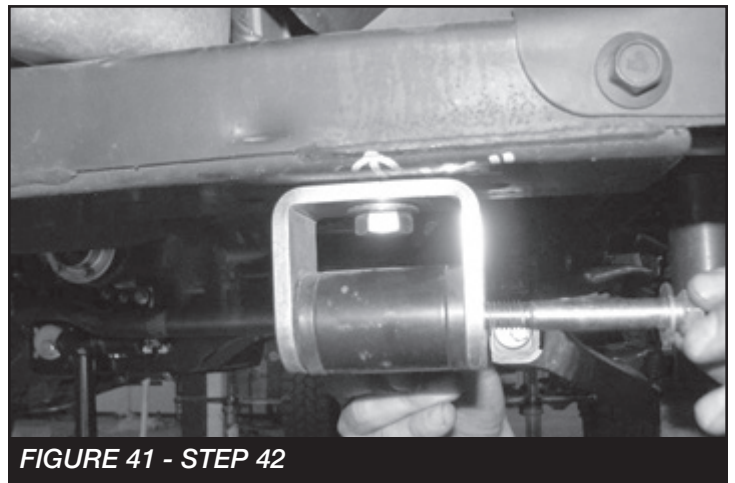

FIGURE 41 - STEP 42
42. Swing up the Fabtech impact tubes and install them into the impact tube bracket using the $\frac{7}{16}$ "- 14 x 3- $\frac{1}{2}$ " bolts, washers and c-lock nuts. Torque the $\frac{1}{2}$ " bolts holding the impact tube brackets to 59 ft-lbs. Torque the three $\frac{7}{16}$ " bolts to 83 ft-lbs. **SEE FIGURE 41**